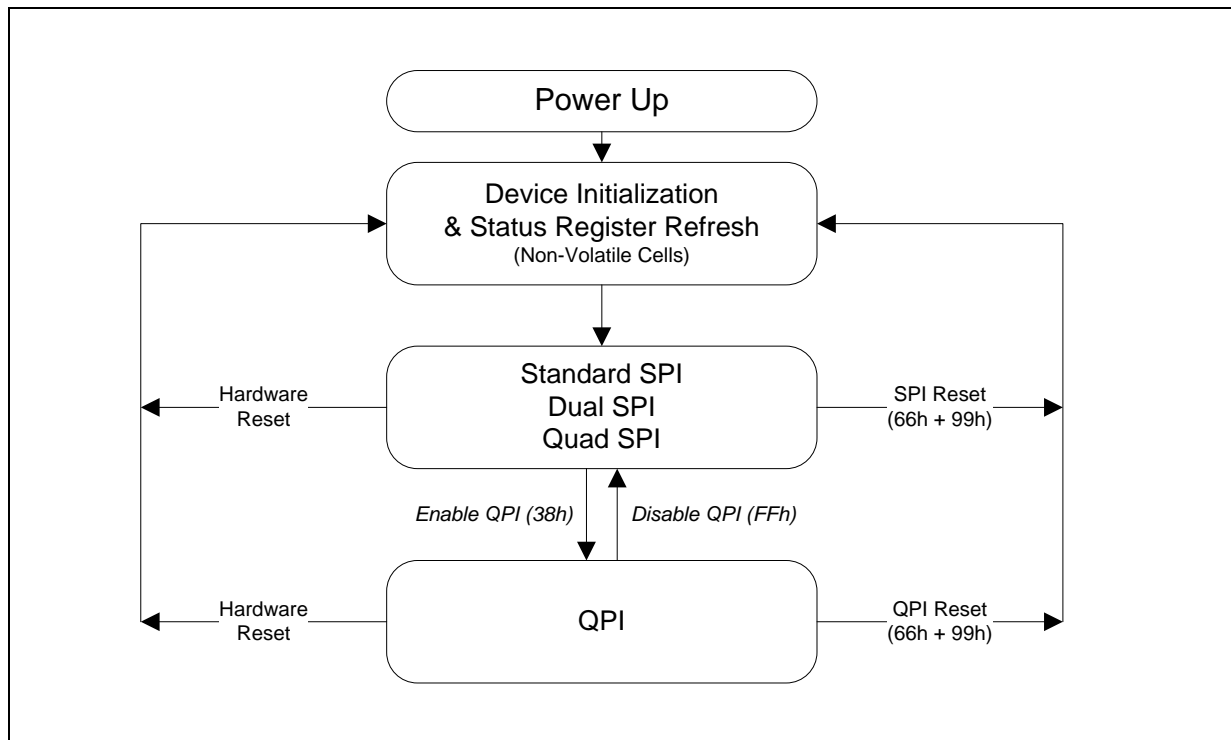

Figure 3. W25Q16JW Serial Flash Memory Operation Diagram
The W25Q16JW supports Quad Peripheral Interface (QPI) operations only when the device is switched from Standard/Dual/Quad SPI mode to QPI mode using the “Enter QPI (38h)” instruction. The typical SPI protocol requires that the byte-long instruction code being shifted into the device only via DI pin in eight serial clocks. The QPI mode utilizes all four IO pins to input the instruction code, thus only two serial clocks are required. This can significantly reduce the SPI instruction overhead and improve system performance in an XIP environment. Standard/Dual/Quad SPI mode and QPI mode are exclusive. Only one mode can be active at any given time. “Enter QPI (38h)” and “Exit QPI (FFh)” instructions are used to switch between these two modes. Upon power-up or after a software reset using “Reset (99h)” instruction, the default state of the device is Standard/Dual/Quad SPI mode. To enable QPI mode, the non-volatile Quad Enable bit (QE) in Status Register-2 is required to be set. When using QPI instructions, the DI and DO pins become bidirectional IO0 and IO1, and the /WP and /HOLD pins become IO2 and IO3 respectively. See Figure 3 for the device operation modes.